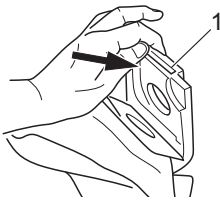

Fig. 20
5. Press the locking clip (Fig. 20/1) back to remove the dust filter bag.